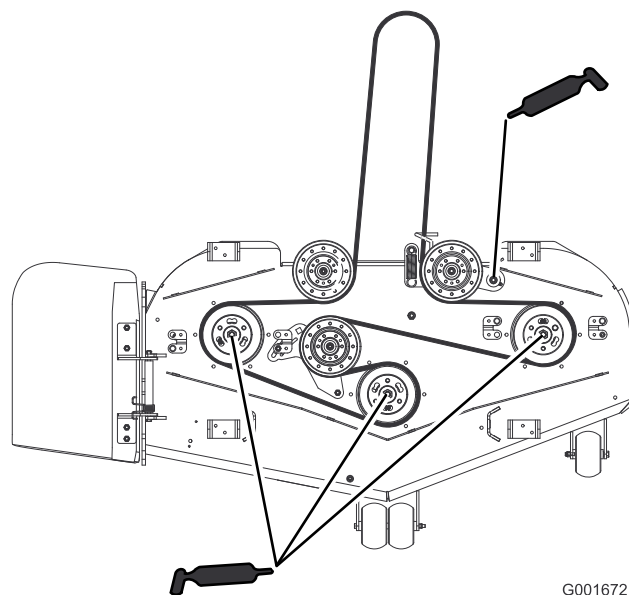

Figure 33
4. Grease the three spindle bearings until grease comes out the lower seals (Figure 33).
5. Grease the idler arm on the mower deck (Figure 33).